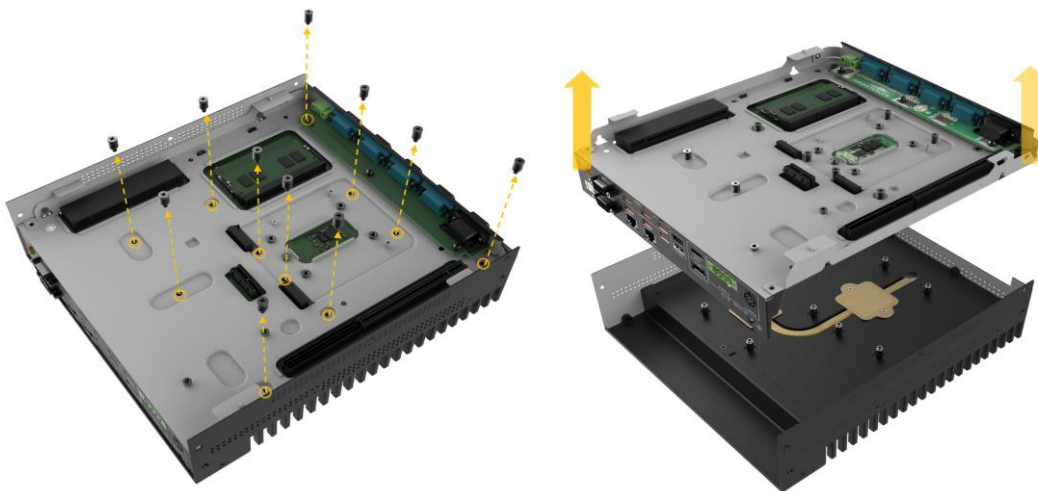

Figure 3-2: Take out the motherboard
Step 2: Remove the 11 spring screws on the motherboard, and then take out the motherboard (including the motherboard holder) (See Figure 3-2).